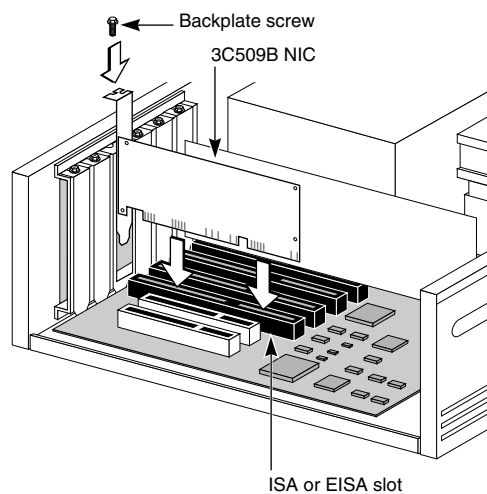

Figure 1-2 Installing the 3C509B NIC
3 Locate an available ISA or EISA slot and remove the screw from the corresponding backplate (Figure 1-2). Save the screw.
Some PCs have both ISA and PCI slots. Make sure that you install the EtherLink III ISA NIC in either an ISA or an EISA slot. See Figure 1-2.
- 5 Ensure that the shape and length of the edge connector on the NIC match the slot that you intend to use (Figure 1-2).**